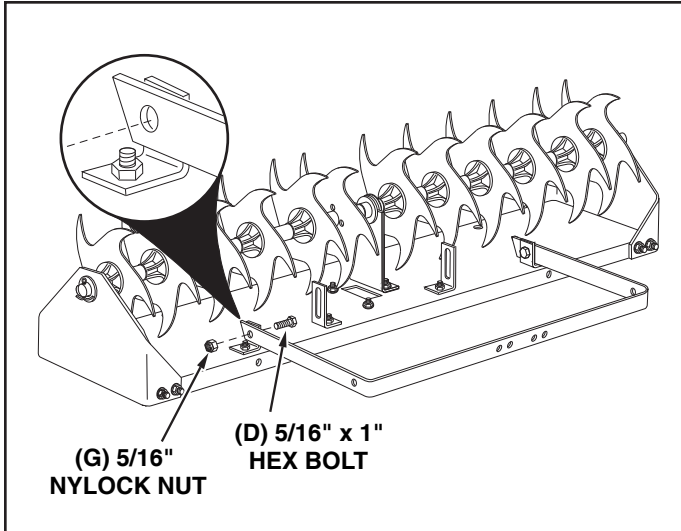

FIGURE 8 REAR VIEW
- Assemble the axle bracket to the **outside** of the angle brackets using two 5/16" x 1" hex bolts (D) and 5/16" nylock nuts (G). The ends of the axle bracket must point as shown in figure 8. **Tighten** and then loosen the nuts 1/4 turn.